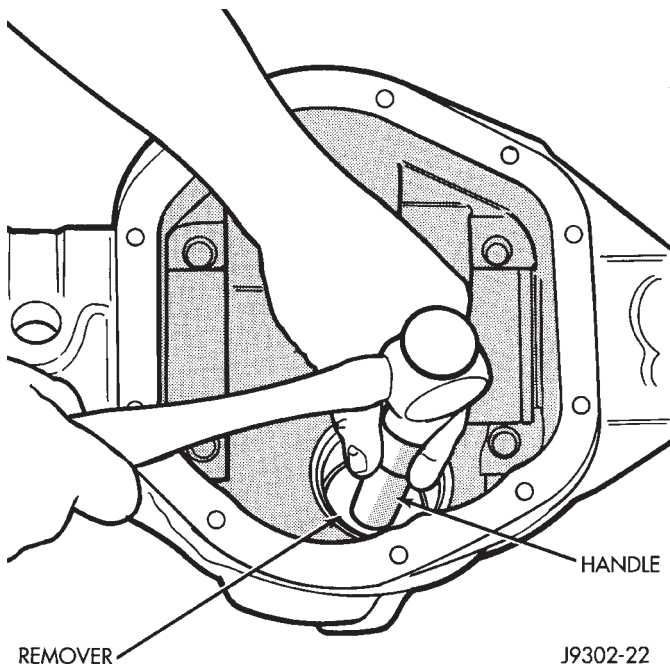

Fig. 37 Front Bearing Cup Removal
(7) Remove the front pinion bearing cup, bearing, oil slinger, if equipped, and pinion seal with Remover C-4345 and Handle C-4171 (Fig. 37).